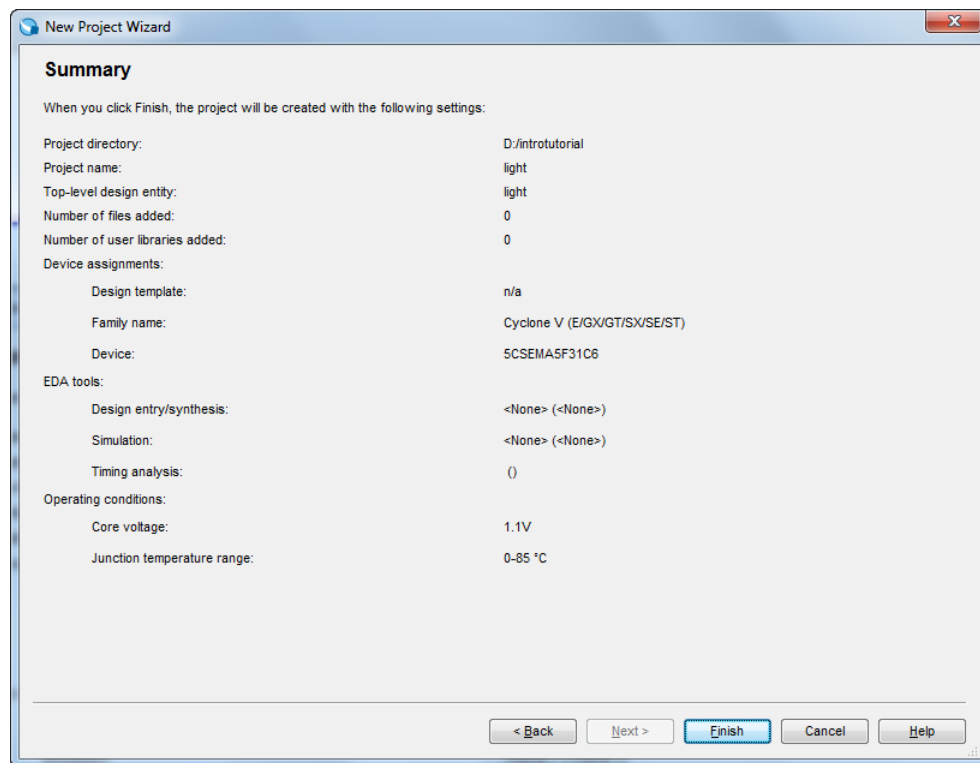
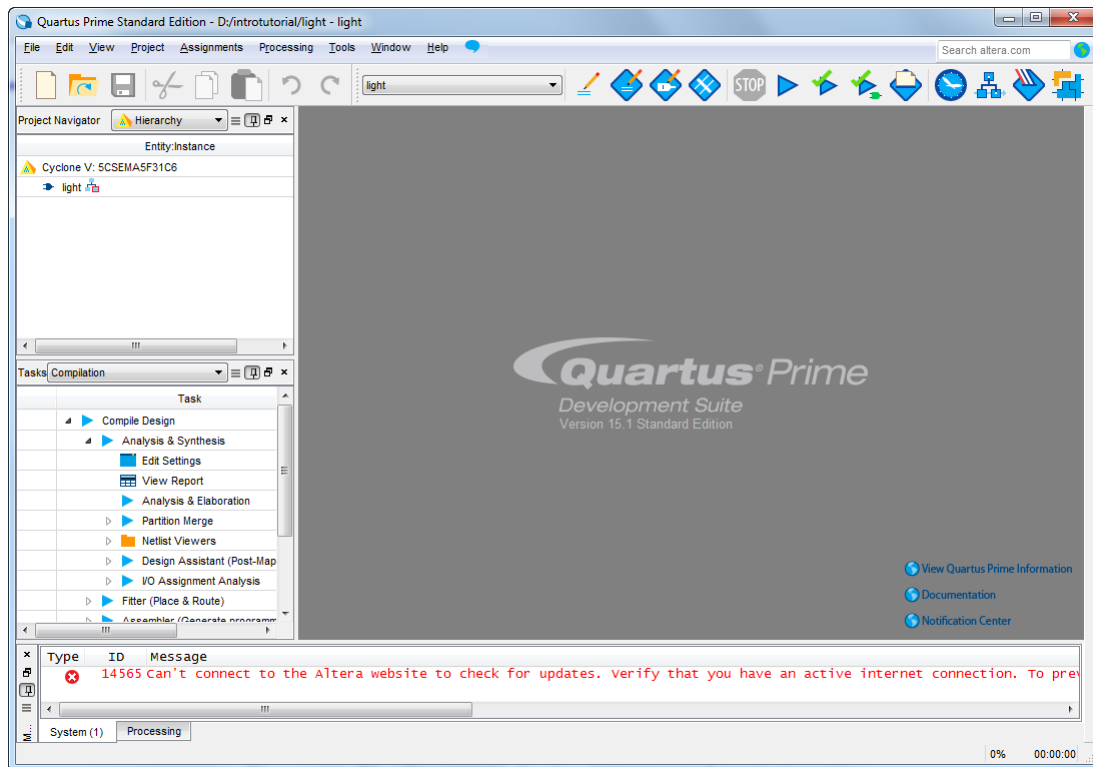

Figure 10. Summary of project settings.
Figure 11. The Quartus Prime display for a created project.
7. A summary of the chosen settings appears in the screen shown in Figure 10. Press Finish, which returns to the main Quartus Prime window, but with *light* specified as the new project, in the display title bar, as indicated in Figure 11.